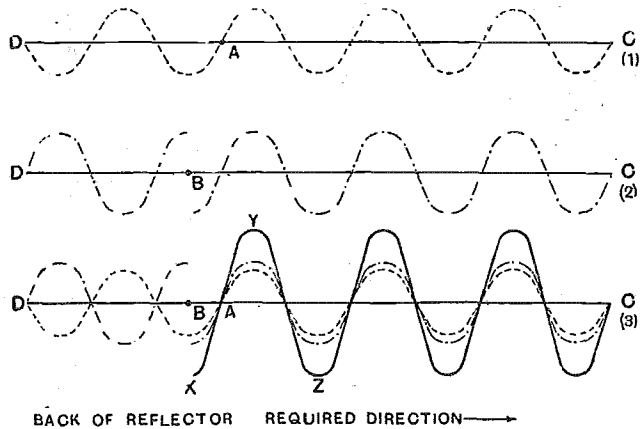

Fig. 2.—A diagram to illustrate the "adding effect" of the arrangement of the vertical aerial wires
When a single vertical aerial wire (A, Fig. 2) is erected and connected to an oscillator, electro-magnetic waves will be radiated equally in all directions. If, however, another simple vertical aerial wire is also erected exactly a quarter wavelength away from the first (B, Fig. 2), and the aerials A and B are in tune with one another, when A oscillates B will also have a current induced in it, and will also oscillate, and re-radiate electro-magnetic waves, although it has no transmitter connected to it.
In Fig. 2 (1) the wave transmitted by the aerial A is depicted, whilst immediately below it (Fig. 2 (2)) the re-radiated wave from B is also shown. It is quite clear from these two figures that the waves going towards 1 and 2 are in phase, and assist, whilst those going in the opposite direction are out of phase, and will cancel one another.
The third figure (Fig. 2 (3)) shows the result where in the direction (3) the waves have double their initial amplitude and in the opposite direction they have practically cancelled out. They would, in fact, have cancelled out entirely had they been of equal amplitude to start with, but because the currents induced in B are slightly less (due to resistance) than those in A, the waves from B are slightly less in amplitude than those from A.